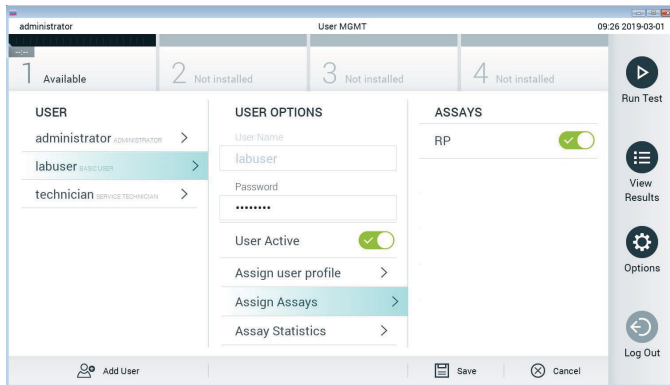

Figure 38. Assigning the active assay.
8. Assign the active assay to the user by pressing the **Options** button and then the **User Management** button. Select the user who should be allowed to run the assay. Next, select **Assign Assays** from the "User Options". Enable the assay and press the **Save** button (Figure 38).